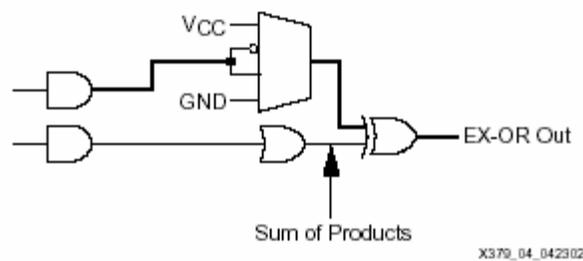

Figure 3: "Trimmed down" Macrocell
An early task – which we show later – is to select an appropriate part for the logic. In theory, you will want to purchase the smallest, slowest part possible to solve your problem. In some cases, you might be unsure about whether you will want to make future changes, so you might wish to select a slightly larger part, to accommodate future, unforeseen changes. Let us look a little deeper at the Figure 1 macrocell, by identifying a very important place in the macrocell. See Figure 3.
**Figure 3** has removed most of the p-terms, the flip-flop and some of the multiplexers in the macrocell, and specifically identifies the OR gate output. This is the site where most combinational logic forms a function. As we learned in logic design classes, all combinational functions can be created from two level “sum of product” (SOP) logic. This is literally creating ANDed terms and ORing them up. Pretty basic. In **Figure 3**, we see that the SOP point attaches to the bottom leg of an EX-OR gate, and it is that site which actually becomes usable. The mux tied to the other leg serves a number of functions, but one is simply polarity control for the output of the EX-OR gate. For instance, if the mux VCC input is chosen, it will present a logic one to the mux output, driving one leg of the EX-OR. Recalling that if the two inputs of an EX-OR are A and B, then the output becomes  $A*/B + /A*B$ . If A is the top leg of the EX-OR and it is set to  $A=VCC=1$ , this expression becomes  $/B$ . That means the value attached to the other EX-OR leg inverts as it passes through the EX-OR. If the mux selects GND =0, then the EX-OR will simply pass the SOP site on the bottom leg directly through the EX-OR to its output. One way of looking at the mux, is that it can make the SOP invert, or simply pass through the EXOR gate. Although the OR gate is connectable to all 56 p-terms available to it, it can be configured to select any number from 0 to 56 p-terms, so lets consider the case where a single p-term is chosen. That means a 40 input AND gate passes through the SOP OR gate, and can then be passed as an AND, or inverted into a NAND.
The main idea here is that individual gates can easily be made with a single macrocell, for a large number of inputs. EX-OR gates are not quite as efficient in this architecture. By using two p-terms at a macrocell, you can form  $A*/B + /A*B$  on the sum of products OR gate output, then attach another operand – say C, through the mux in **Figure 3**, and achieve a three input EX-OR function coming out of the EX-OR gate. This is not as good as the other gates, but good enough to form the SUM bit of an adder. It still needs the carry created (another macrocell), but you can quickly see that adders will “burn through” two macrocells per bit for addition.